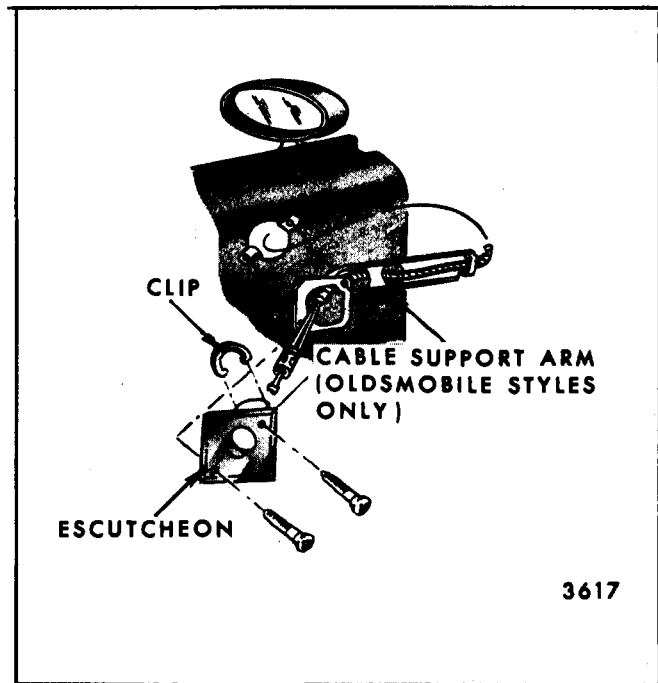
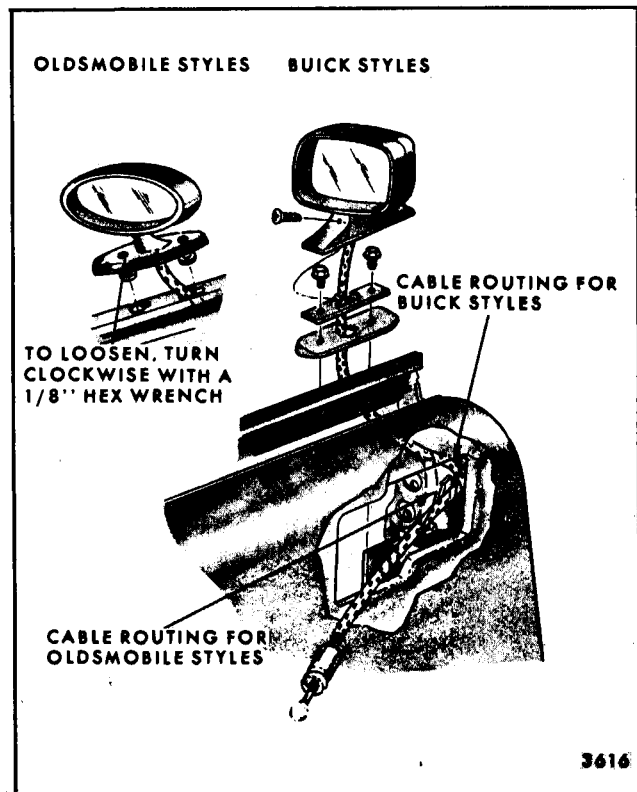

Fig. 6-57-Door Outside Remote Mirror Trim Pad Escutcheon Removal - Buick and Oldsmobile "A" Styles
Fig. 6-58-Door Outside Remote Mirror Removal - Buick and Oldsmobile "A" Styles
- Lower window to a full-down position. Remove remote cable escutcheon to door trim assembly attaching screws and disconnect cable to escutcheon attaching clip (Figure 6-57).
- On Oldsmobile ventless styles, remove cable support arm from end of cable (Figure 6-57). On Buick ventless styles working through the remote cable escutcheon access hole in door trim assembly and/or through the beltline, detach remote cable from retaining tab on door hinge pillar (Figure 6-58).
3. On Buick styles, remove remote control mirror to mounting bracket attaching screw, in base of mirror, and mounting bracket to door outer panel attaching screws (Figure 6-58). Then remove mirror and cable assembly from door.